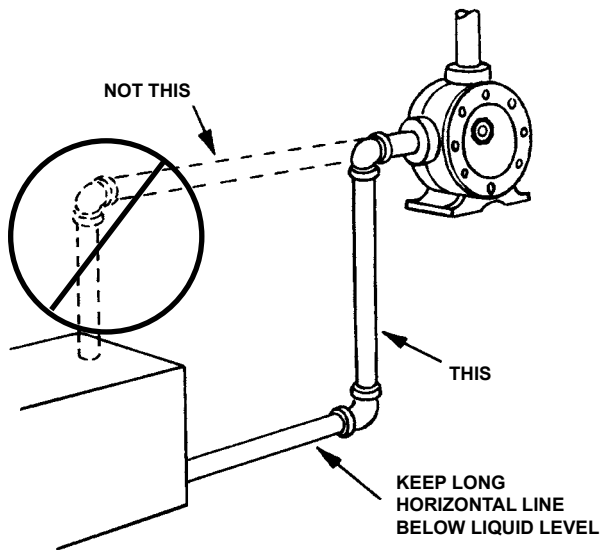

FIGURE 11
- For a suction line with a long horizontal run, keep the horizontal line below the liquid level if possible. This keeps the pipe full so the pump does not have to remove so much air when starting; this is most helpful when there is no foot valve. **See Figure 11.**